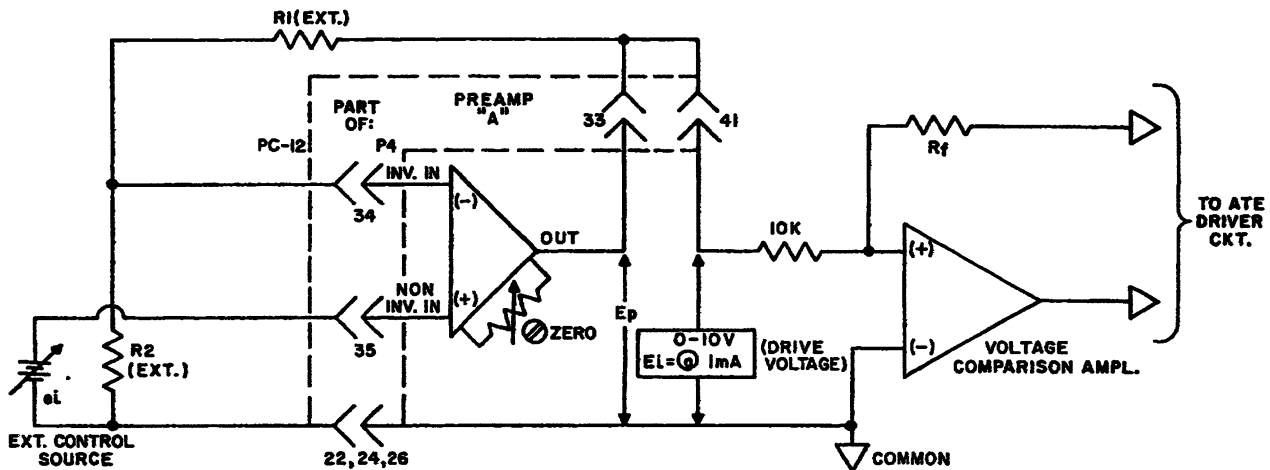

FIG. 3-9 USING PREAMP "A" TO GENERATE THE 0-10V @ 1 mA CONTROL POTENTIAL FROM A HIGH IMPEDANCE SOURCE.
- 3-52** External control sources which cannot supply at least 100 μ A of control current can be best accommodated by using one of the preamplifiers in the non-inverting configuration. The control source is connected to the ATE as shown in FIG. 3-9.
- 3-53** (Refer to FIG. 3-9). The preamplifier output voltage (E_p) is made equal to the required drive voltage " E_i " by calculating the external resistors (R_1 , R_2) for the required gain, using the equation: